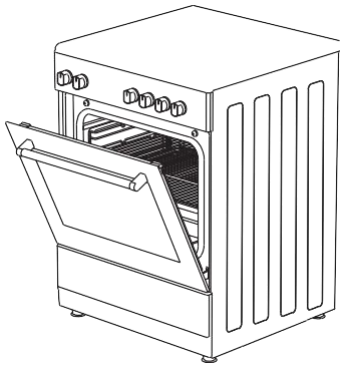

Figure 30
3.Place the safety panel under control panel by opening the oven front cover glass. (figure 30)